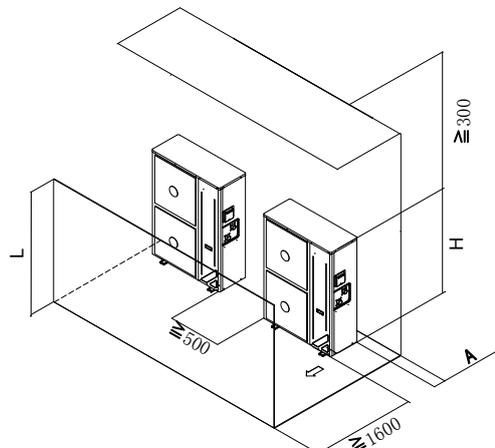

Figure 18
b. Group installation (see Figure 18)